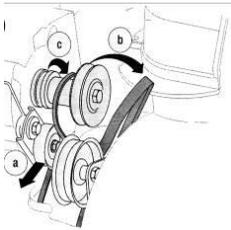

Fig. 17
- Lift the steering belt off the engine drive wheel. See Fig. 17.